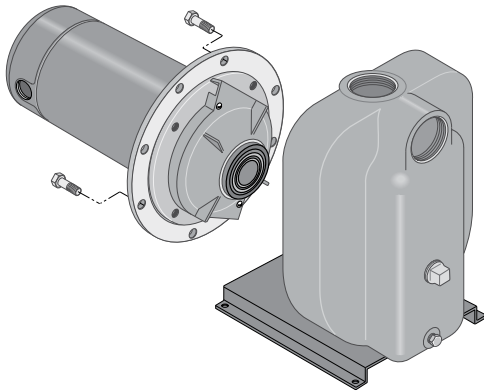

Figure 14 – Slide Motor Back
5. Remove capscrews holding seal plate to pump body. Motor assembly and seal plate can now be pulled away from pump body (Figure 14).